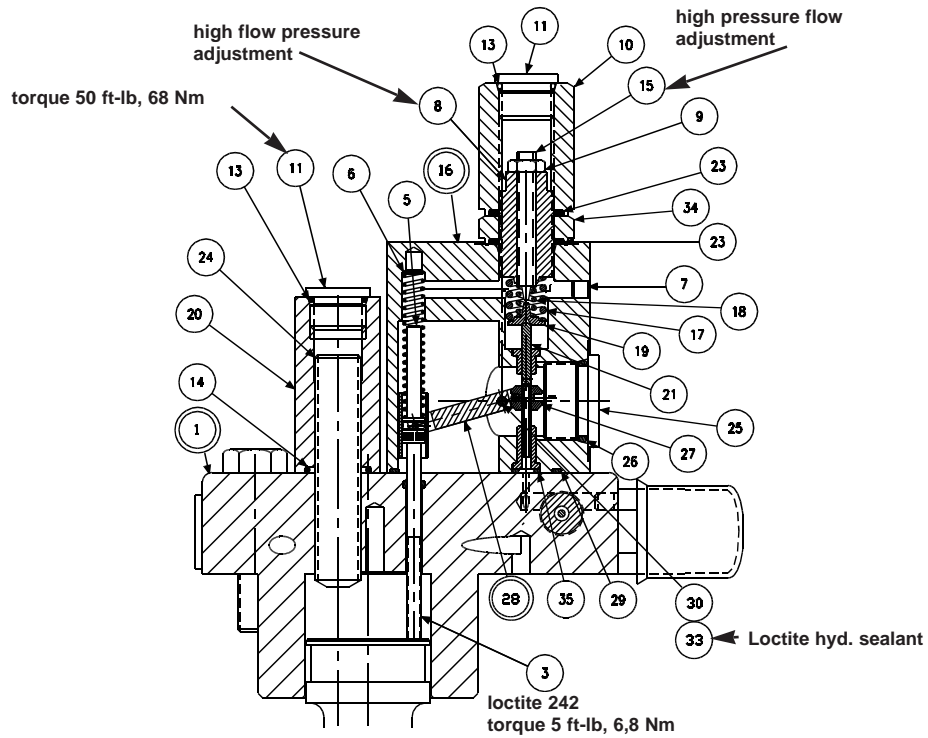
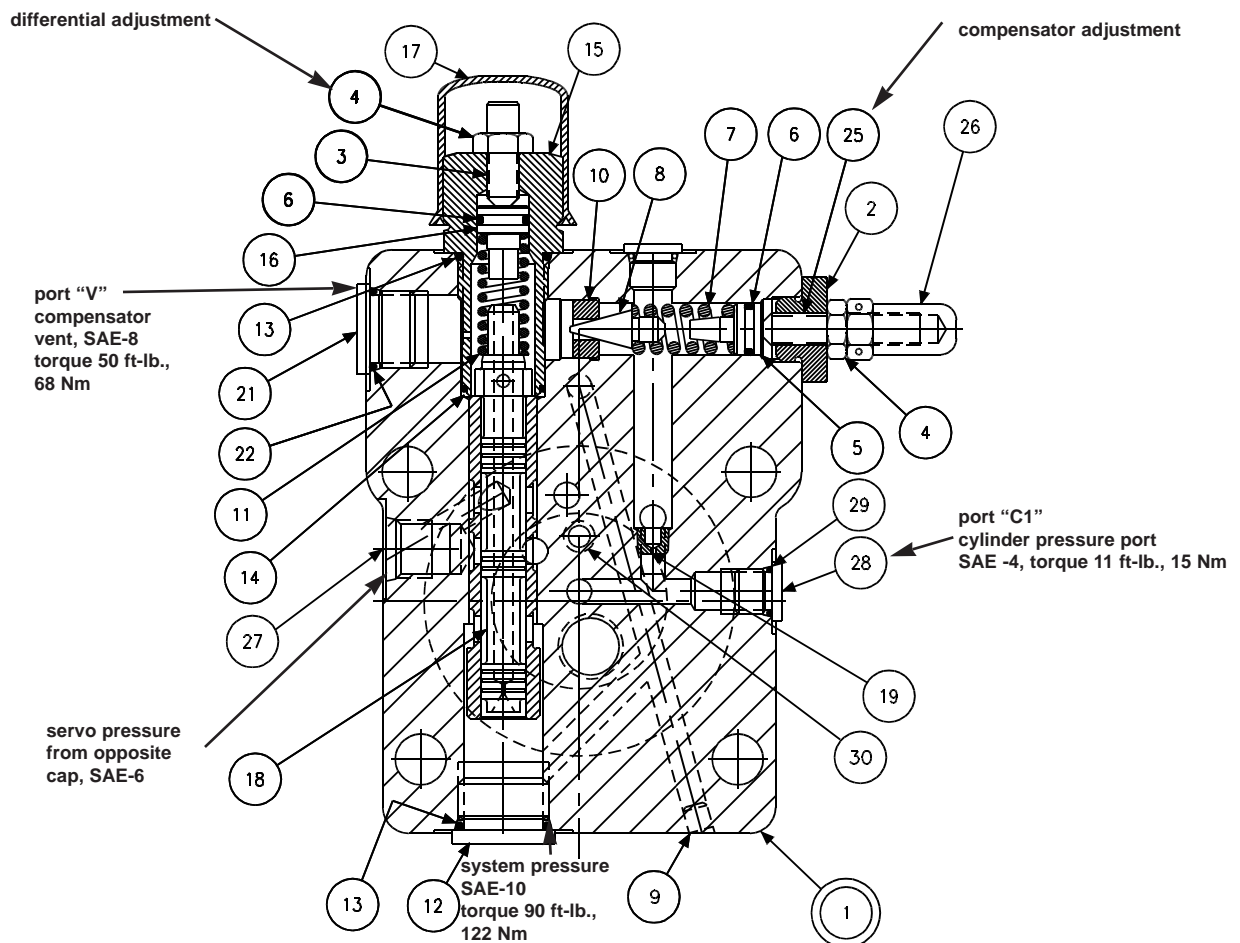

FIGURE 8
FIGURE 9
1. **See figure 8.** Remove 2 screws holding torque limiter body (16) to cap assembly (1).
2. Remove all parts from torque limiter body (16) except pin (30) and arm assembly (28). It is not necessary to remove these parts unless broken or worn. Examine parts for wear or damage.
3. Remove screw (3). Examine head for excessive wear, and body for smooth sealing surface with O-ring.
4. Remove maximum volume stop assembly (items 11, 13, 14, 20 and 24).
5. Remove cap assembly (1).
6. **See fig. 9.** Remove plug (15) and attached parts. Remove spring (11) and spool (18).
7. Remove adjusting plug (2) and attached parts. Remove seal piston (5). Note: a 10-24 screw may be attached to assist in pulling the piston. Remove spring (7) and cone (8).
8. Do not remove sleeve in body (1). Sleeve is pressed into cap and finished to size. If sleeve, snout or cap is worn, replace the cap-sleeve assembly (1).
9. Examine seat (10) for wear. Do not remove unless damaged.
1. **See figure 9.** Install Avseal plugs (9) and orifice (19).
2. Press seat (10) into bore squarely against shoulder in bore.
3. Install spool (18) into bore as shown. Install spring (11) over end of spool. Install O-ring (6) on seal piston (16). Lubricate and install into plug (15). Install O-ring (14) in bottom of bore as shown. Install O-ring (13) on plug (15). Install plug (15) into cap. Install screw (3) and nut (4).
4. Install O-ring (6) on seal piston (5).
5. Lubricate O-ring and install cone (8), spring (7) and seal piston into bore in cap (1), being careful that cone enters seat (10). Install adj. plug (2), screw (25), nut (4), and acorn nut (26).
6. Install plug (12) and torque to 90 ft-lb, 122 Nm. Install plug (21). Torque to 50 ft-lb, 68 Nm. Install plug 28. Torque to 11 ft-lb, 15 Nm.
7. Carefully install O-ring (30) into the cap.
9. **See figure 8.** Install maximum stop screw (24), cover (20), O-ring (14) and plug (11) with O-ring (13).
10. Apply Loctite 242 on threads of screw (3), lubricate the shank, thread through the cap into the control piston, and torque to 5 ft-lb, 6,8 Nm.
12. Press dowel (30) into body (16), through the link assembly (28), to .25 in., 6,35 mm below surface. Apply Loctite hydraulic sealant to threads of screws (33) and install over dowel (30).
13. While sleeve (27) is engaged into dowel on link (28), slide spool (21) into bore of body (16), and through sleeve (27). Spool (21) must move freely and easily at all positions of the link (28).
14. Assemble remaining parts per drawing. Torque plugs (11) to 50 ft-lb, 68 Nm.
15. While spring retainer is engaging clevis pin (5) under dowel of link (28), slide the other opening of spring retainer over the top of the screw (3). Attach body assembly (16) to cap (1) and torque assembly screws to 75 ft-lb, 102 Nm.
**PARTS LIST FOR FIGURE 8***torque limiter override**code J S22-15405**code K S22-15630*
**PARTS LIST FOR FIGURE 9,***torque limiter override cap S22-15412*
5. For setting and testing compensator override function, disable torque limiter in this manner: Back out primary adjusting screw (15) figure 8, to remove all load. Turn in outer adjusting screw (8) to go solid. Caution! do not apply over 10 in-lb, 1,2 Nm torque to avoid damage to internal parts!